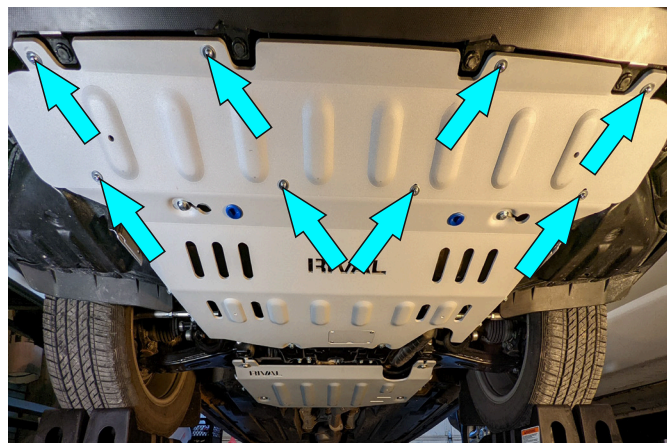

Fig. 8
8. Attach bash plate (item 2) on engine skid plate (item 1) and on U-nut M6 (item E), using screw M6x20 (item B) and washers 6 (item F) (Fig.8).